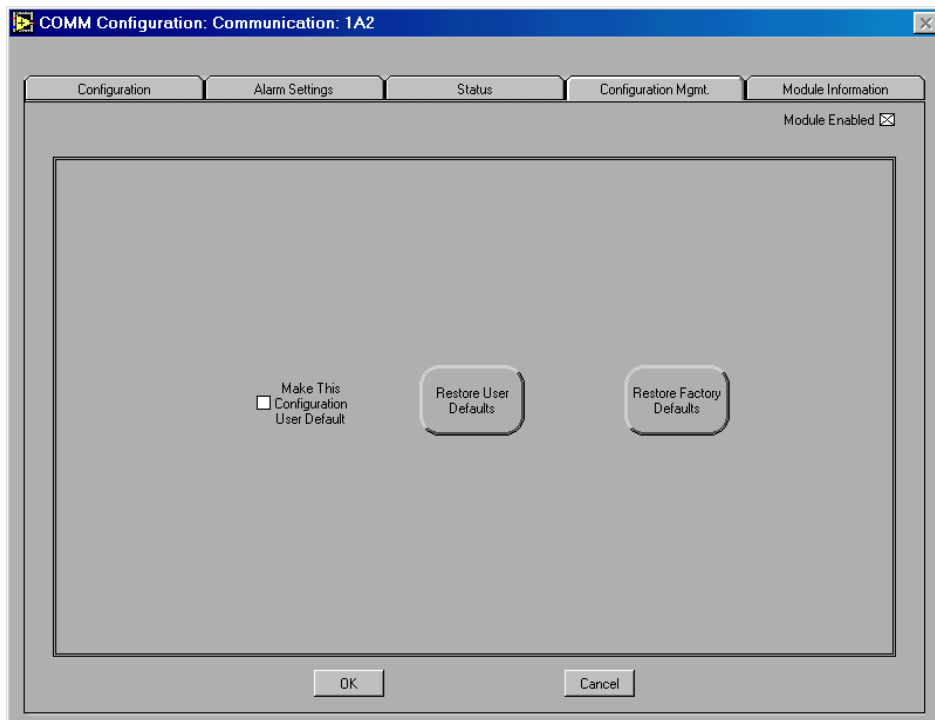

Figure 7-3. Example Configuration Management Tab
- In the **Configuration Management** tab of each dialog, choose one of these options (Figure 7-3 shows the Configuration Management tab of the Communications Module Configuration dialog box as an example):